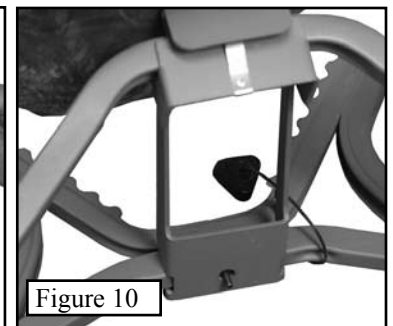

Figure 10
**Step 1.** The Copperhead is shipped to you in its folded position. To setup, rotate the pivoting brace up and place the C-Channel over the bolt stud as shown in **Figure 10**.